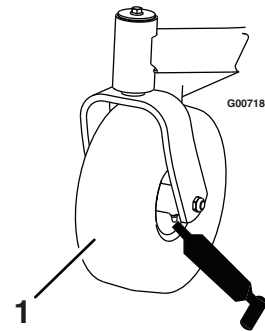

Figure 17
Grease the front caster wheels (Figure 17).
3. Clean the grease fittings (Figure 17) with a rag. Make sure to scrape any paint off of the front of the fitting(s).